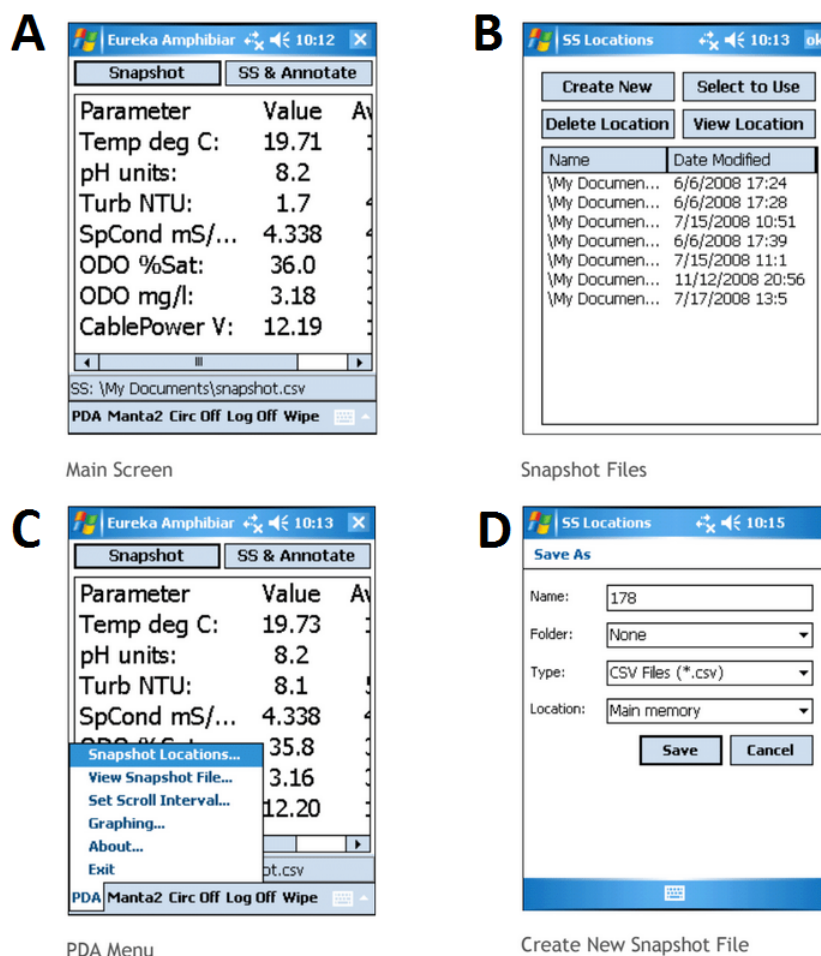

Figure 1: Amphibian Working Screens
10.1 Connecting the Manta. Connect and power on the Manta to the Amphibian Portable PC as before. Adjust screen brightness using short-cut buttons **arrow up + P3** and **arrow up + P4**. When you open the Amp_2.2_6, the Main screen will appear(A) (Figure 1). This is where you will see data readings. To log, or store, one line of data take a ”snapshot” with the top left button (A). To locate snapshots, open the PDA menu in the bottom left corner and select ”snapshot locations”(B). In the SS locations screen (C) you can edit your files or create a new one. When creating a new file (D), annotate using the guidelines in 10.5. To see data presented graphically, open the PDA menu and select ”graphing” (B). To exit the program, again open the PDA menu and select ”Exit.”